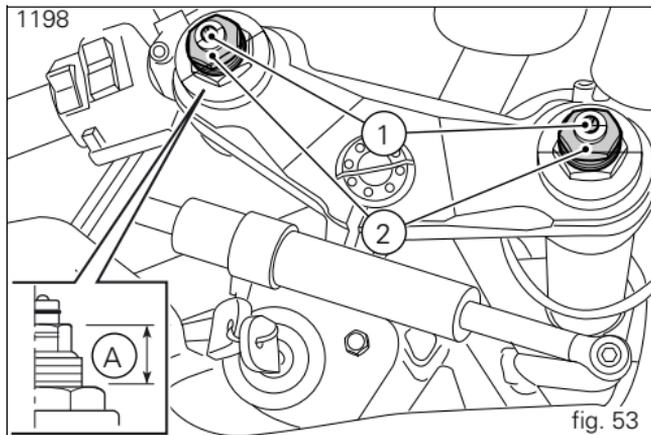
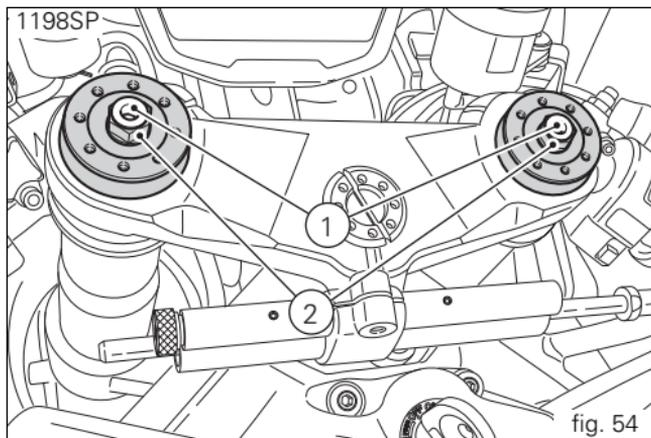

fig. 53
fig. 54
- 1) to adjust rebound damping (fig. 53 and fig. 54);
- 2) to adjust spring preload (fig. 53 and fig. 54);
Spring preload (1198) (A, fig. 53): 18 mm;
the hex. adjuster (2, fig. 53 and fig. 54) with a 22-mm